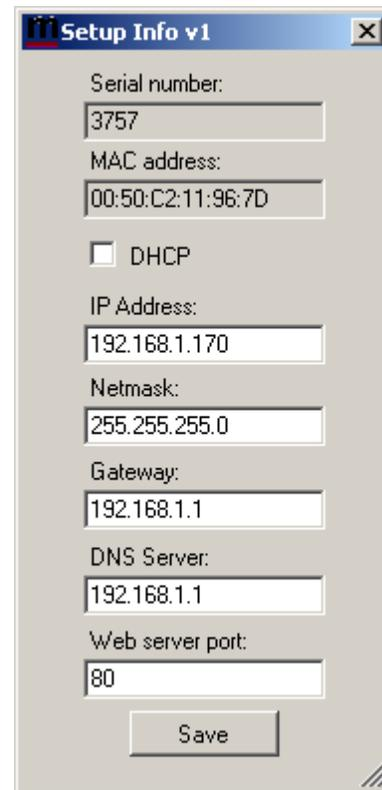

Figure 4
- Click on the Get button to open the Setup Info window (Figure 4), check and correct the following entries as needed:
Web Server Port: This is the port your web browser uses to communicate with the RR-1256 unit to configure further settings without your browser. To communicate with the RR-1256 unit, enter the I.P. address assigned to it (e.g. for the unit shown in Figure 4, enter 192.168.1.170).